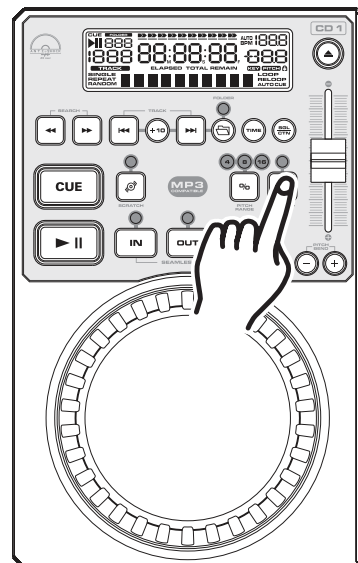
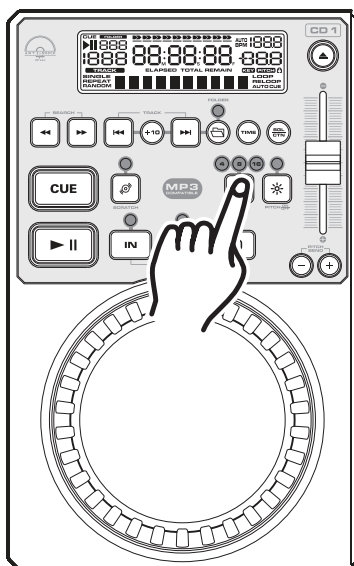

Figure 24
Figure 26
Adjusting the PITCH SLIDER'S RANGE: You may change the *PITCH SLIDER'S* (5) operating range at any time. To change the operating range be sure the pitch function is turned on, see figure 24. The pitch percentage can be changed between +/-4%, +/-8%, +/-16%, & 100%. 4% will allow the least amount of pitch manipulation and 100% will allow the most amount of pitch manipulation. To adjust the different ranges, press the *PITCH ON/OFF BUTTON* (6) and tap on the *PITCH RANGE BUTTON* (7) until your desired value is reached, see figure 26. **Note: 100% Pitch Adjustment works with CDs only, not Mp3 CDs.**